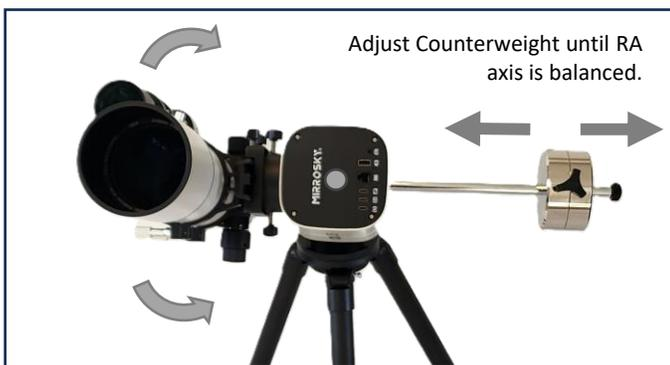

Fig. 2.26
- 2. Find Imbalance:** Determine which way the RA axis wants to rotate. See Fig. 2.26.